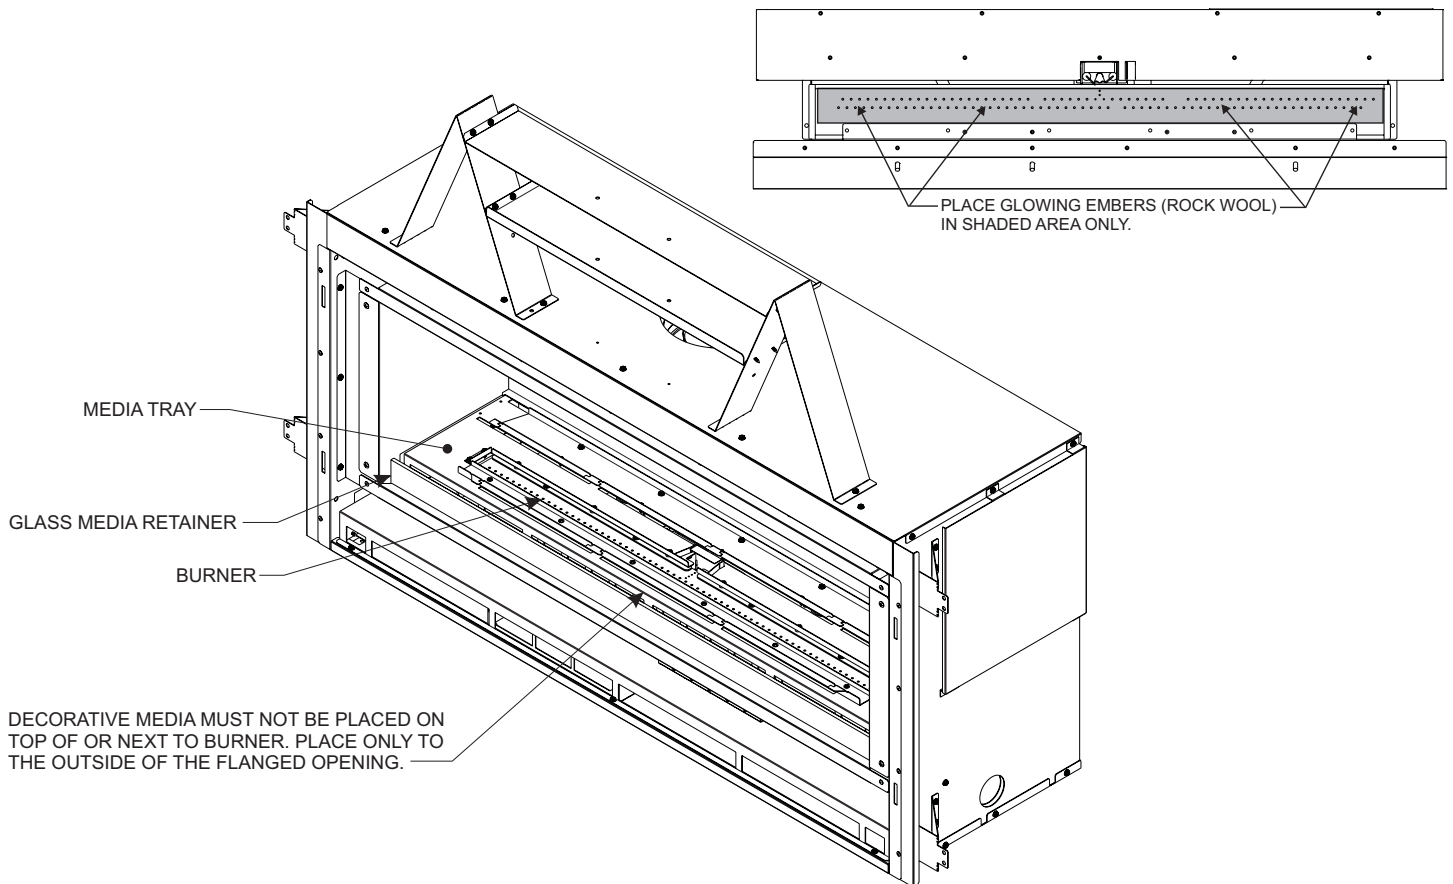

Figure 54
3. Place dime-sized pieces of ember across the burner surface. A single layer, is sufficient; do not over-apply. See Figure 54 inset.